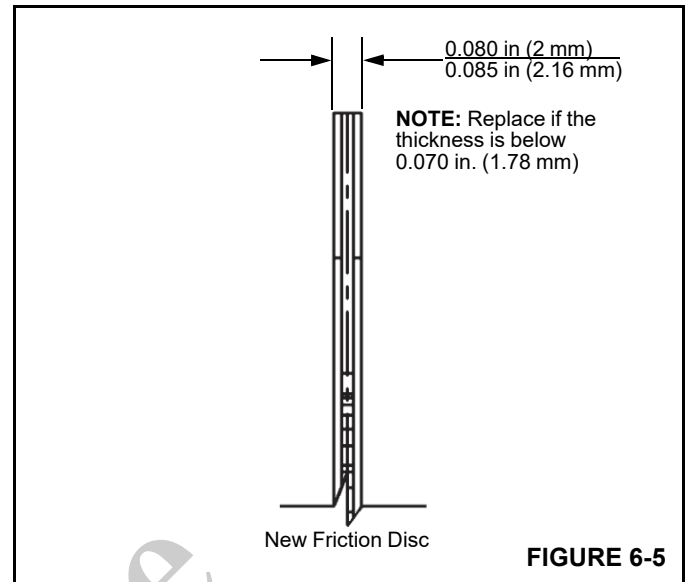

FIGURE 6-5
10. Inspect the friction discs for wear and the stator plates for excessive grooving or burn spots. Check the friction disc thickness (Figure 6-5).